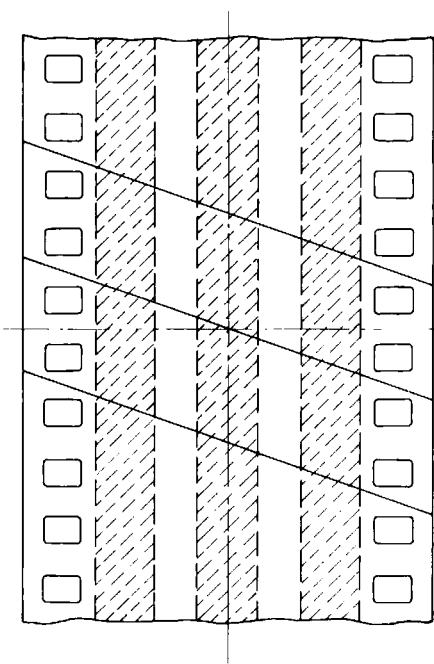

Fig. 2
- 2.5 The dimensions of the splicing tape applied to secure a splice shall not interfere with the film width dimensions specified for the particular film. Splicing tape shall not interfere with sprocket hole perforation opening dimensions. (See Figs. 2, 3, and 4.)
- 2.10 Splice cuts and splicing tape edges shall be centered between perforations. (See Figs. 2, 3, and 4.)